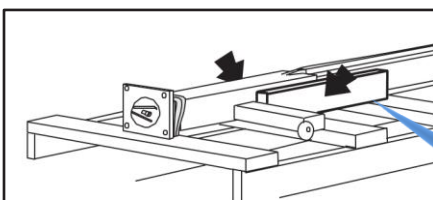

Figure 8
2. Pry off the two 2x4 blocks (Figure 8) which keep the slide assembly from moving during shipment.